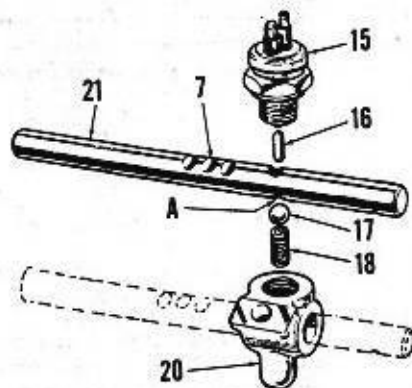

Fig. 187—Plunger (16) lies in cross bore of range shift rail as shown. Refer to Fig. 186 for parts identification and to Fig. 188 for installed view.
locating pin (19) which is pressed into a bore in shift cover (9) and enters the positioning hole in top of retainer. Refer also to Figs. 187 and 188.